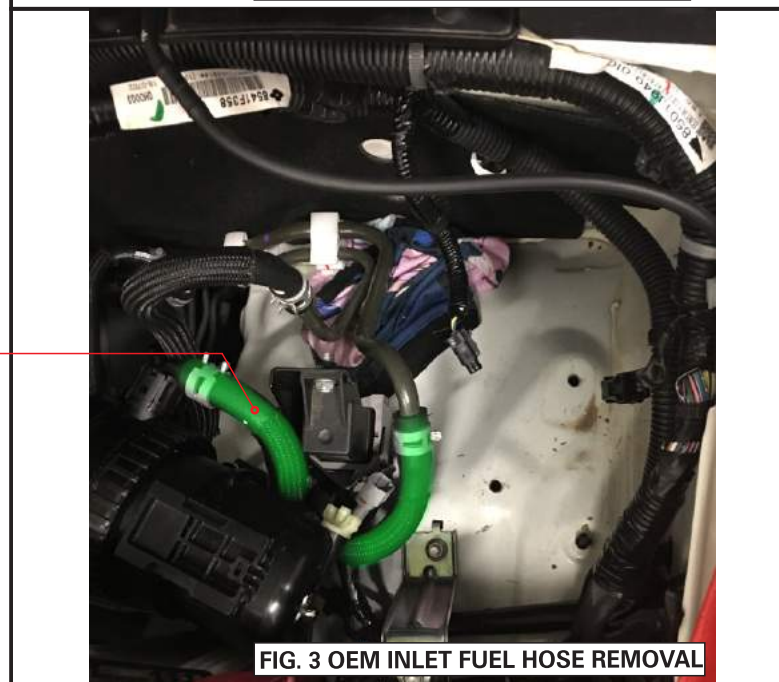

FIG. 3 OEM INLET FUEL HOSE REMOVAL
6. Remove the OEM fuel supply hose & hose clamps (highlighted green in Fig. 3). Have a rag ready as some fuel will spill from the hose and pipe.
3. Install the Ryco fuel water separator head with metal quick connectors, blanking plugs and rubber bonded washers as shown in Fig.3. Tighten blanking plugs (on Port 2 & 3) and quick connectors (on Port 1 & 4).